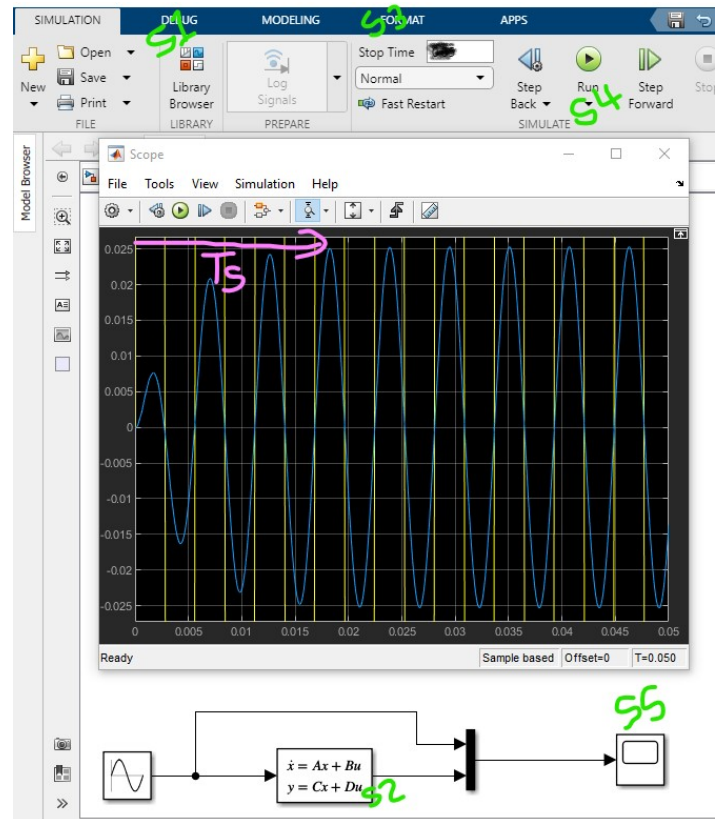

Figure 2: Simulink Setup. The time response may not match that for the design parameters used this year.
4. In this step, you create a Simulink simulation4 to analyze the system response for each sinusoidal input. Reference Fig. 2 while reading the following method.
- Open the Simulink library browser (see green S1 on Fig. 2). In the 'continuous' folder, copy the 'State-Space' block to the Simulink window. Also copy a 'sine wave' source input from the sources folder and a 'scope' output from the sinks folder. Connect them up as shown in the bottom of Fig. 2 to represent the system.5
- Double click the 'State-space' block to open it up (see green S2 on Fig. 2).
- Near the top middle of the Simulink main window is an item labeled 'Stop time' (see green S3 on Fig. 2). Change the value of the stop time to be approximately three times the settling time. This allows  $T_s$  seconds for the transient response and  $2T_s$  seconds for the steady-state response.
- Click the button with the green arrow to perform the simulation (see green S4 on Fig. 2).
- Double click the scope to open it and see the results (see green S5 on Fig. 2). The scope displays both the input signal (sine wave) and the output response.